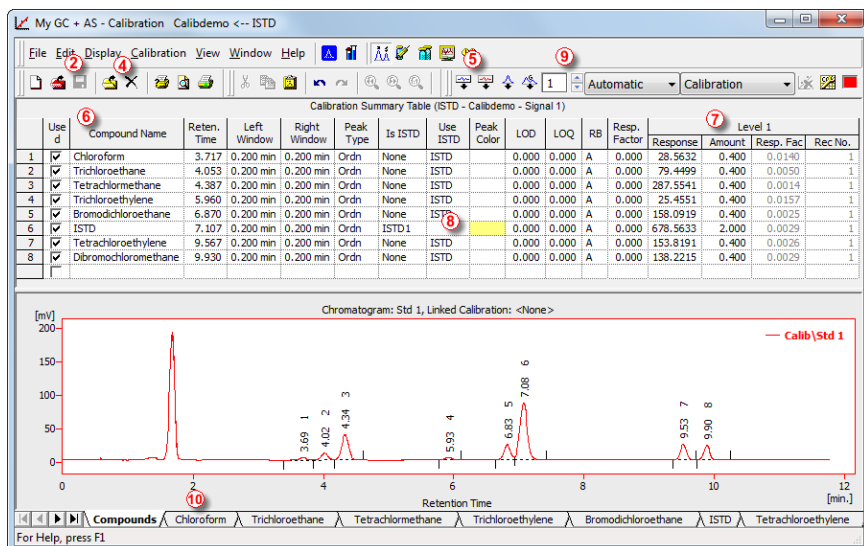

Fig 17: Calibration window - loaded standard
- Set the calibration level number to 1 on the *Current Level* field. Use the *Add All* icon (blue) ⑤ to move all identified peaks to the calibration table. The Calibration table appears in the *Calibration* window, ready to be completed as seen on Fig 17 on pg 28.
- As it can be seen in the calibration, individual peaks are now identified according to their retention times only. Click and edit the fields in the *Compound Name* column ⑥ to those seen on Fig 17 on pg 28. You may also set the peak color for some peak, for example the ISTD peak, in the *Peak Color* column.
- Fill the *Amount* column ⑦ with the concentration of the particular compounds. In this standard mixture, all compounds except for the peak number 6 have concentration of 0.4.
- Peak number 6 is marked as ISTD peak. In the *Is ISTD* column, change its type to ISTD1 ⑧ and then set its amount in the *Amount* column to 2.
- The first calibration level is now set. On the tabs of the individual compounds ⑩ (named according to the *Compound Name* field) the graph with single-point linear calibration can be seen.
- Proceed to setting the other calibration levels. The operation is quite simple - use the *Open Standard* icon (yellow) ④ again to open another calibration standard named STD 2.PRM. Set the calibration level in the *Current Level* field ⑨ to 2 and use the *Add All* icon (blue) ⑤. Fill in the *Amount* column with 1.0 values (except for the peak 6, in which the 2 value should be used again).
- Set the third calibration level accordingly using the STD 3.PRM file and *Amount* of 3.0 and the fourth level (file STD 4.PRM, *Amount* 5.0) except for the ISTD peak (always *Amount* = 2). On the tabs of the individual compounds ⑩, the linear four-point calibration can be seen. Save the calibration file now using the *Save Calibration*  icon ⑪ under the name CALIBDEMO.CAL into the default directory.